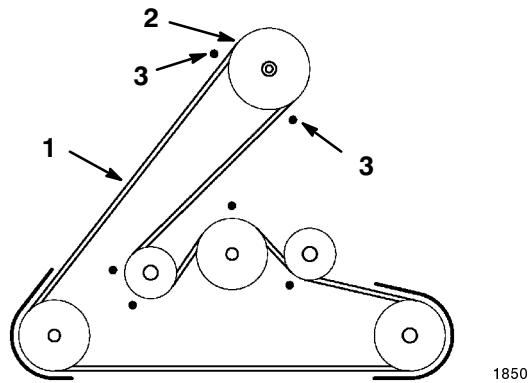

**Figure 42**
10. Remove the hair pin cotter and washer from the end of the long rod (Fig. 42). Slide the rod out of the mower mount.
11. Remove the hair pin cotter and washer at the mower leveling bracket (Fig. 42). Slide the bracket off the mounting pin. Re-install the washer and hairpin cotter for storage.